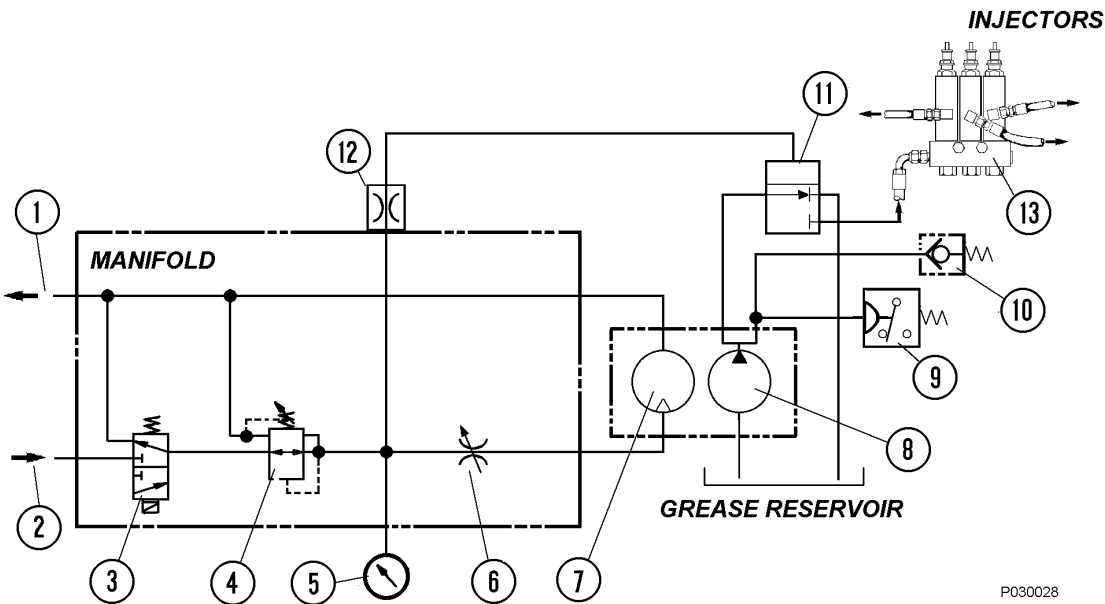
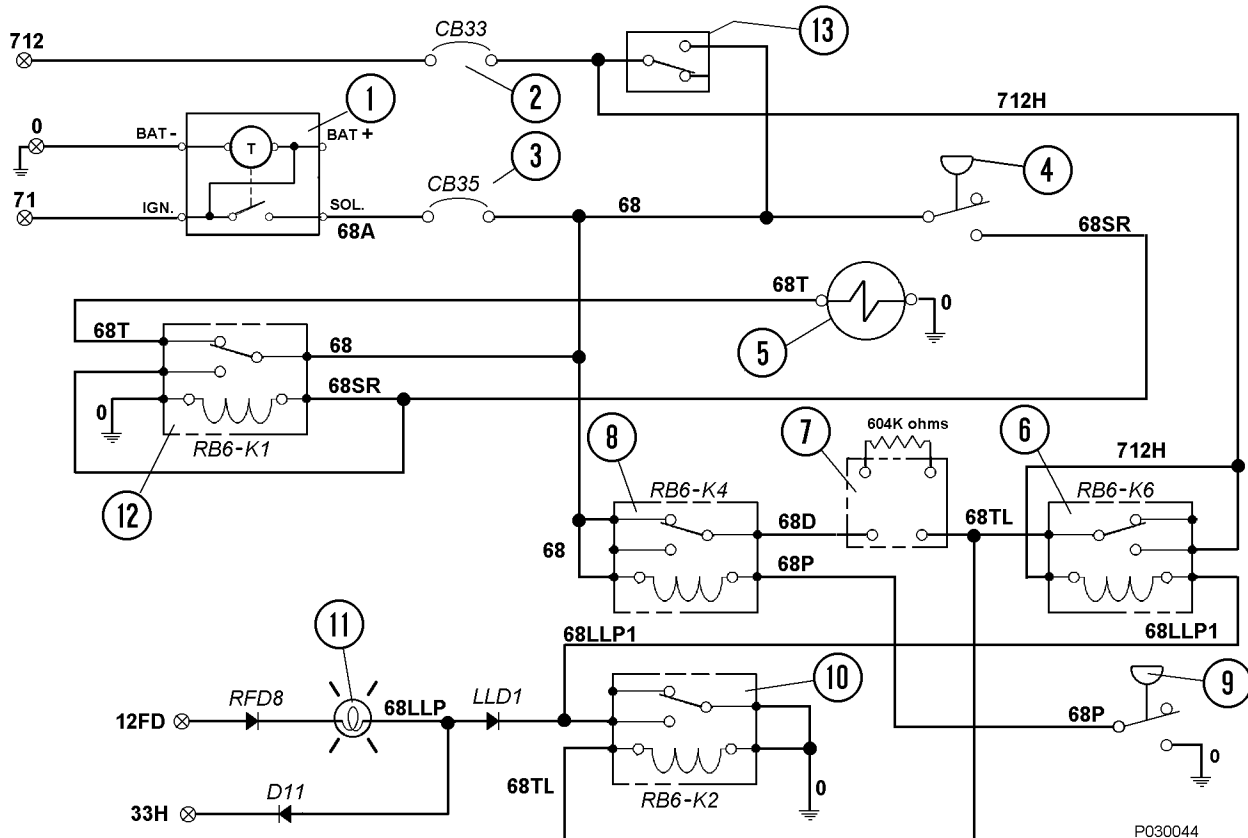

FIGURE 42-5. HYDRAULIC SCHEMATIC
FIGURE 42-6. ELECTRICAL SCHEMATIC
Time delay module (7, Figure 42-6), located in the electrical interface cabinet, provides a one minute delay in the low pressure warning light circuit to allow a normally operating system to attain full grease system pressure without activating the warning light. If the system fails to reach 13 790 kPa (2,000 psi) within this period of time, the timer will apply 24VDC to several relays, which will illuminate the low pressure warning light in the overhead panel. An external 604K ohm resistor determines the delay period.
Refer to Figure 42-5 and 42-6:
1. During truck operation, lubrication cycle timer (1, Figure 42-6) will energize the system at a preset time interval.
2. The lubrication cycle timer provides a 24VDC signal through normally closed relay board (12) used to energize pump solenoid valve (3, Figure 42-5), allowing hydraulic oil provided by the truck steering pump circuit to flow to the pump motor and initiate a pumping cycle.
3. The hydraulic oil pressure from the steering circuit is reduced to 2 240 to 2 413 kPa (325 to 350 psi) by pressure reducing valve (4, Figure 42-5) before entering the motor. In addition, the amount of oil supplied to the pump is limited by flow control valve (6). Pump pressure can be read using pressure gauge (5) mounted on the manifold.
4. With oil flowing into the hydraulic motor, the grease pump will operate, pumping grease from the reservoir to vent valve (11) and then to injectors (13). Pressure switch (9) prevents over pressurization.
6. When 20 685 kPa (3,000 psi) grease pressure reaches pressure switch (4, Figure 42-6) setting, the switch contacts will close and energize relay K1 (12), removing power from grease pump solenoid valve (5) and the pump will stop. The relay will remain energized until grease pressure drops and the pressure switch opens again or until the timer turns off.
7. After the pump solenoid valve is de-energized, hydraulic pressure in the manifold drops and vent valve (11, Figure 42-5) will open, releasing grease pressure in the lines to the injector banks. When this occurs, the injectors are then able to recharge for the next lubrication cycle.
8. Unloader valve (10) prevents excessive grease pressure if the pressure switch fails to close and shut off the hydraulic supply to the pump. The unloader valve will open at approximately 27 580 kPa (4,000 psi).
1. When the lubrication cycle is initiated, 24VDC flows through relay RB6-K4 (8, Figure 42-6) N.C. contacts to one minute time delay module (7).
2. If the system is operating normally, grease pressure at the rear axle injector bank will rise to pressure switch (9) setting of 13 790 kPa (2,000 psi), closing the switch contacts and energizing relay RB6-K4 (8), removing 24 Volts from the time delay module. The timer is then reset and no current will flow from the timer output terminal.
3. If a problem occurs and the system is not able to attain 13 790 kPa (2,000 psi), then time delay module (7) will energize relay RB6-K2 after 60 seconds, turning on the Low Lubrication System Pressure warning lamp on the overhead display. After RB6-K2 energizes, it will ground the coil of RB6-K6 and allow it to energize.